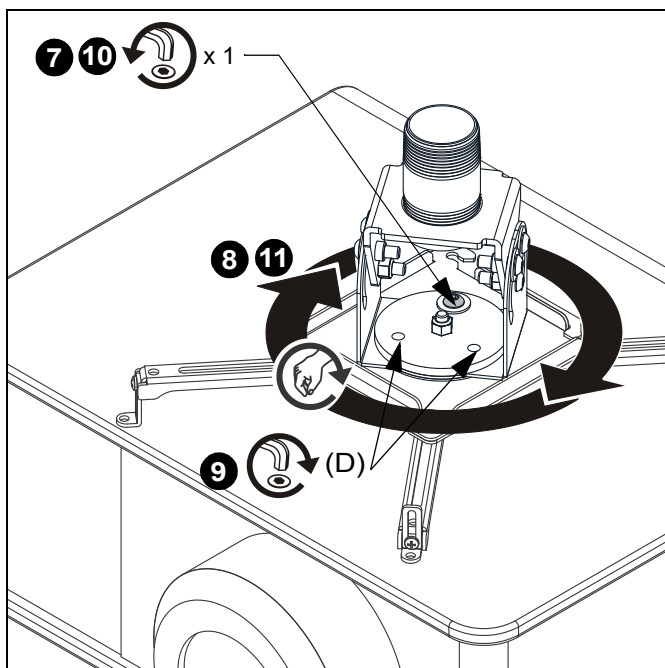

Figure 12
9. Add one 5/16-18 x 1" button head cap screw (D) along with one 5/16" washer (E) into one of the two separate holes in the VPAU base. (See Figure 12)